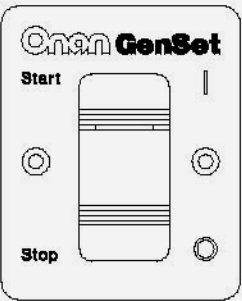

FIGURE 4. REMOTE SWITCH
- Remote switch with status indicator light only (Figure 4).